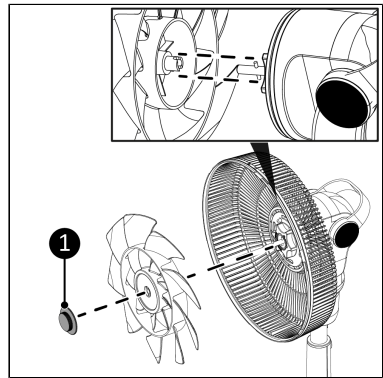

Figure 26.
10. Place the blade nut (Figure 26, pos. 1) and turn it counterclockwise to secure the fan blades.